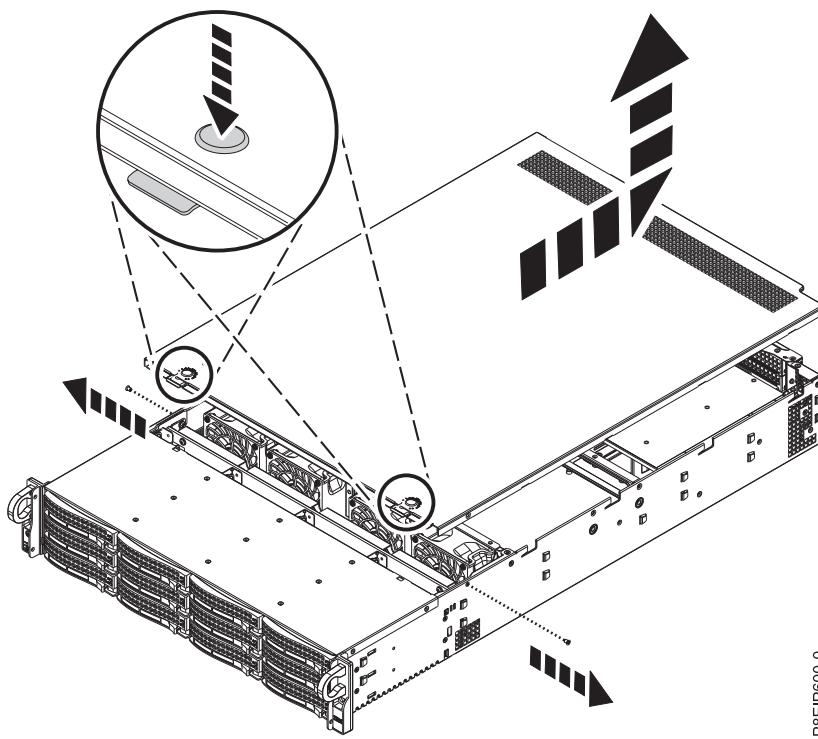

Figure 64. Releasing and opening the cover
3. Press both buttons on the top cover to release the latches as shown in Figure 64, and push the cover back about 0.5 in (1 cm) until it stops. If the buttons do not easily press down, partially remove the drives directly under the buttons.